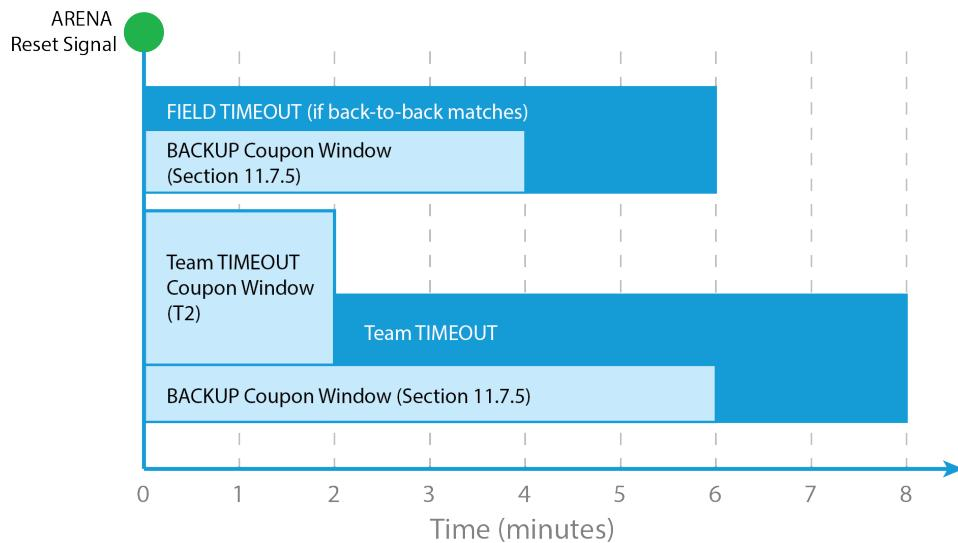

Figure 11-4 TIMEOUT Timeline
T2. If an ALLIANCE wishes to use their TIMEOUT, the ALLIANCE CAPTAIN must submit their TIMEOUT coupon to the Head REFEREE within two (2) minutes of the ARENA reset signal preceding their MATCH. If there is no preceding MATCH, the TIMEOUT coupon must be submitted no later than two (2) minutes before the scheduled MATCH time. The TIMEOUT will begin two (2) minutes after the ARENA reset signal (i.e. at the end of the Team TIMEOUT Coupon Window depicted in Figure 11-4)